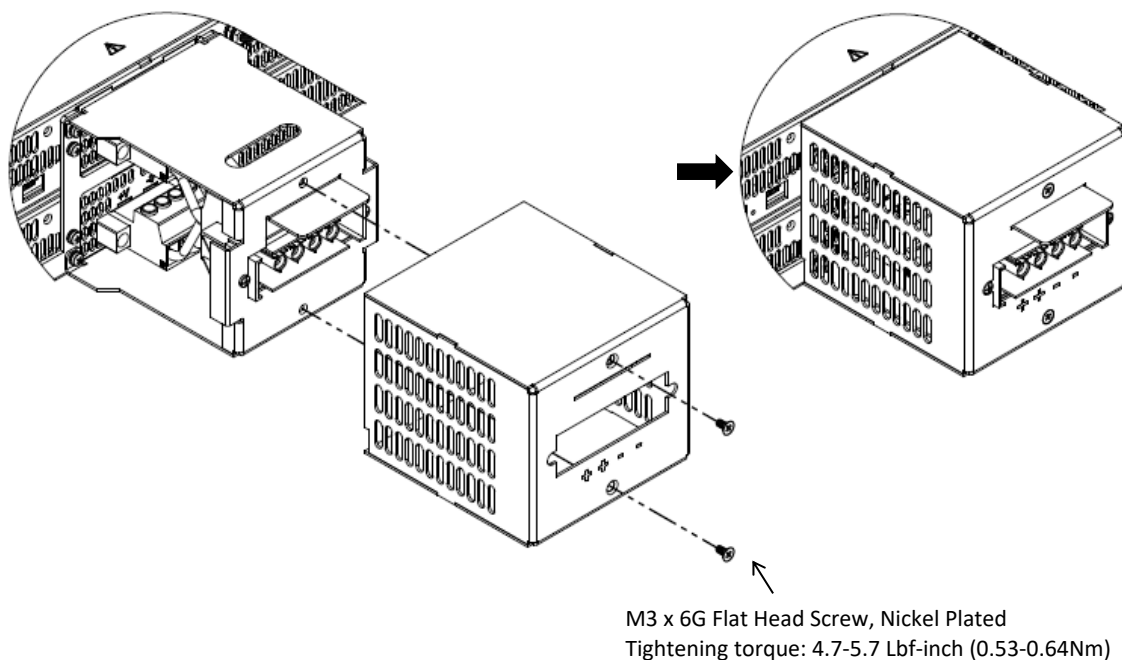

Figure 28: Output bracket installation
6. Attach output bracket to output bracket G+10KW using two flat head screws as illustrated in Figure 28.